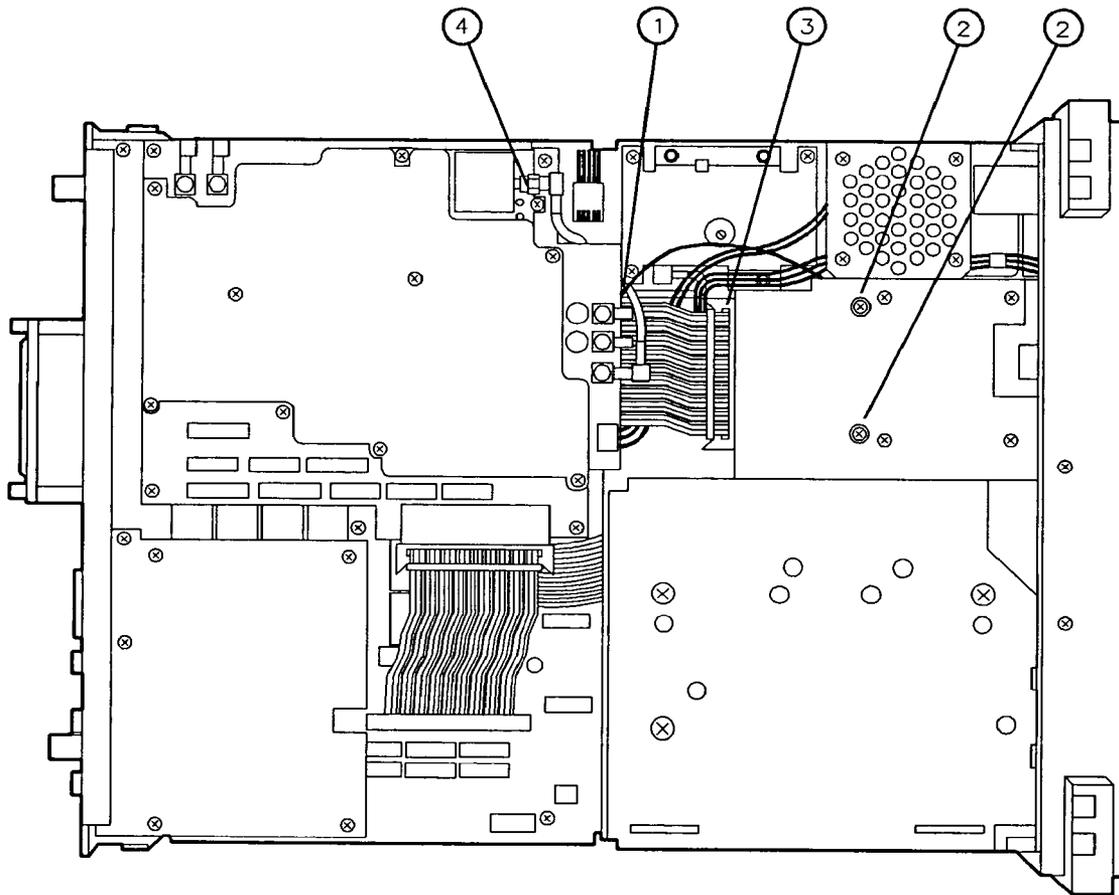

Figure 3-35. A17 Memory Card Reader
13. Route and connect the wires as shown in Figure 3-35. Connect the front-panel **LINE** switch wire harness to A16J9 (1).